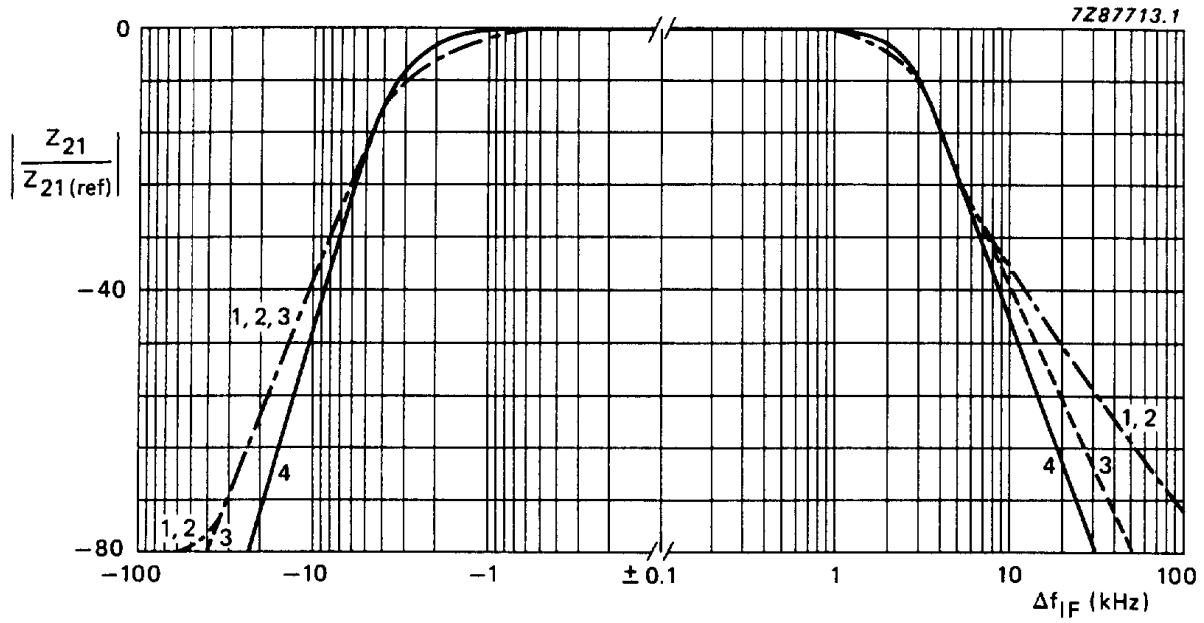
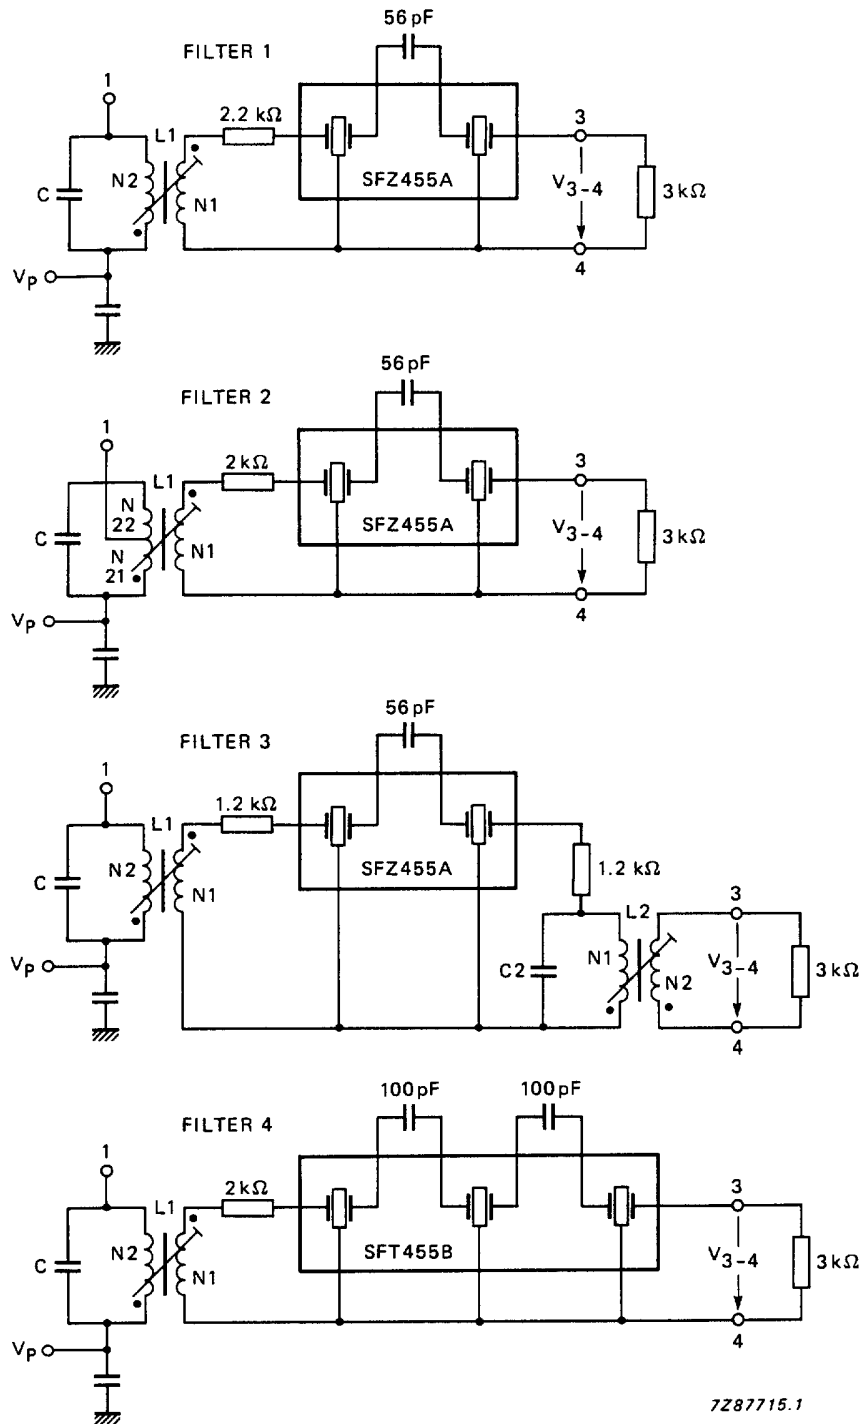

Fig.14 Forward transfer impedance as a function of intermediate frequency for filters 1 to 4 shown in Fig.14; centre frequency = 455 kHz.
Fig.15 IF filter variants applied to the circuit of Fig.1; for filter data refer to Table 1.
**Table 1** Data for IF filters shown in Fig.15. Criterion for adjustment is  $Z_F = \text{maximum}$  (optional selectivity curve at centre frequency  $f_o = 455 \text{ kHz}$ ). See also Fig.14.